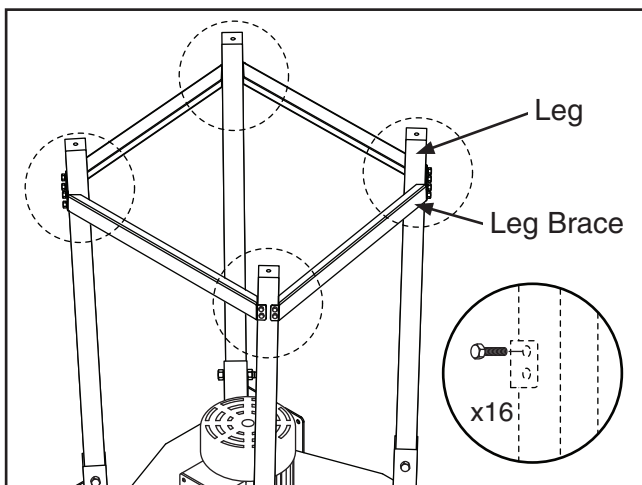

Figure 10. Attaching leg braces.
3. Attach the four leg braces to the legs with the (16) $\frac{5}{16}$ "-18 x $\frac{1}{2}$ " hex bolts, as shown in **Figure 10**. Fully tighten the bolts and the hardware from **Step 2**.